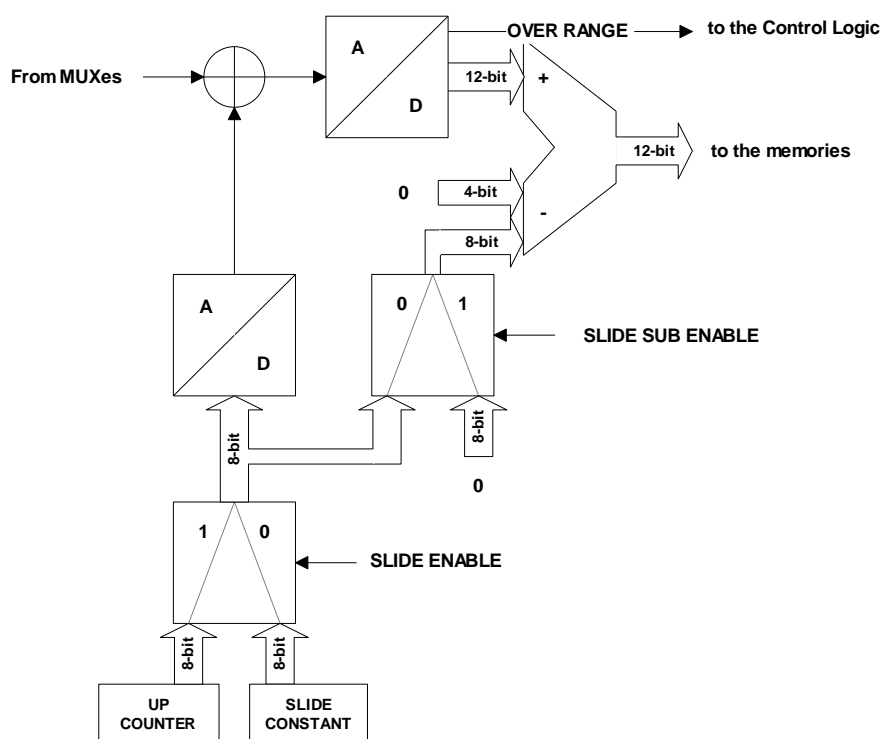

Fig. 2.4: Block diagram of the sliding scale section
The output of each PEAK section is multiplexed, by group of 4 channels, and subsequently converted by two fast 12 bit ADCs, each of which operates the conversion on a group of 16 / 8 (depending on the version) channels (Block A and Block B ADCs). The ADC section supports the sliding scale technique to reduce the differential non-linearity (see references [1], [2]). This technique (see Fig. 2.4) consists in adding a known value to the analog level to be converted, thus spanning different ADC conversion regions with the same analog value. The known level is then digitally subtracted after the conversion and the final value is sent to the threshold comparator.
* This feature is available from firmware releases 5.1; for earlier firmware releases the thresholds can be programmed only in 16 ADC counts steps (as illustrated in Fig. 2.4).